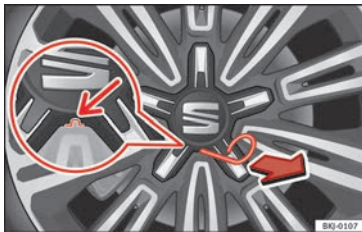

Fig. 79 Removing the central wheel trim.
- Attach the wire hook (vehicle tools » Fig. 77 (6)) to the housing provided for this » Fig. 79.
- Pull on it to remove the trim » Fig. 79.